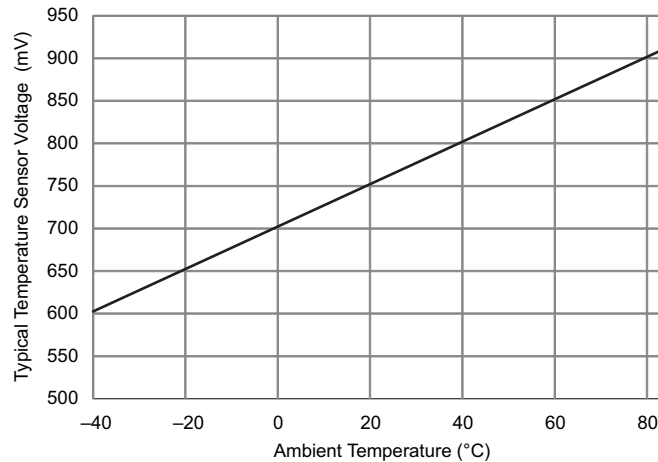

Figure 5-19. Typical Temperature Sensor Voltage
| V_{SENSOR} | See (1) (2) | ADC12ON = 1, ADC12TCMAP = 1, $T_A = 0^\circ\text{C}$ (see Figure 5-19) | | | 700 | | mV |